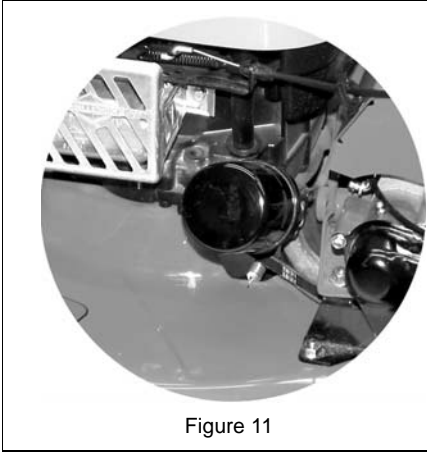

Figure 11
3. Turn filter counterclockwise to remove (Figure 11).